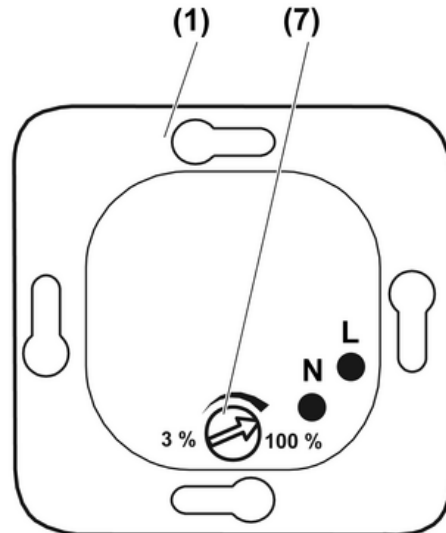

Figure 3
- Remove flush-mounted insert (1) from appliance box. When doing this, ensure insulation of the cables in accordance with regulations.
- Adjust brightness by turning the adjuster (7) (Figure 3).
- Mount the concealed insert (1) in the appliance box. The terminals must be at the bottom.